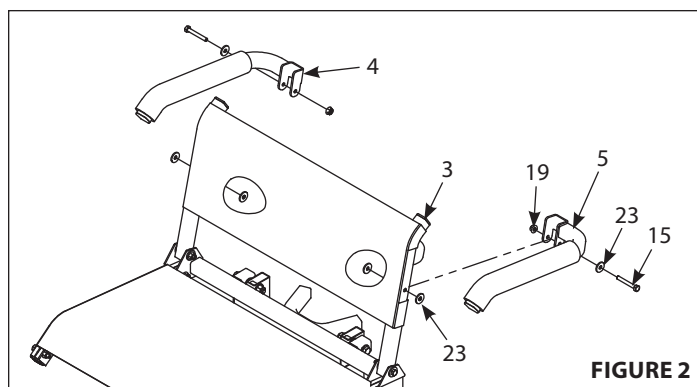

FIGURE 2
2. Attach right armrest (4) and left armrest (5) to backrest frame (3) of the seat assembly using two provided M6 x 45mm bolts (15), six yellow washers (23) and two M6 locknuts (19). **SEE FIGURE 2.**